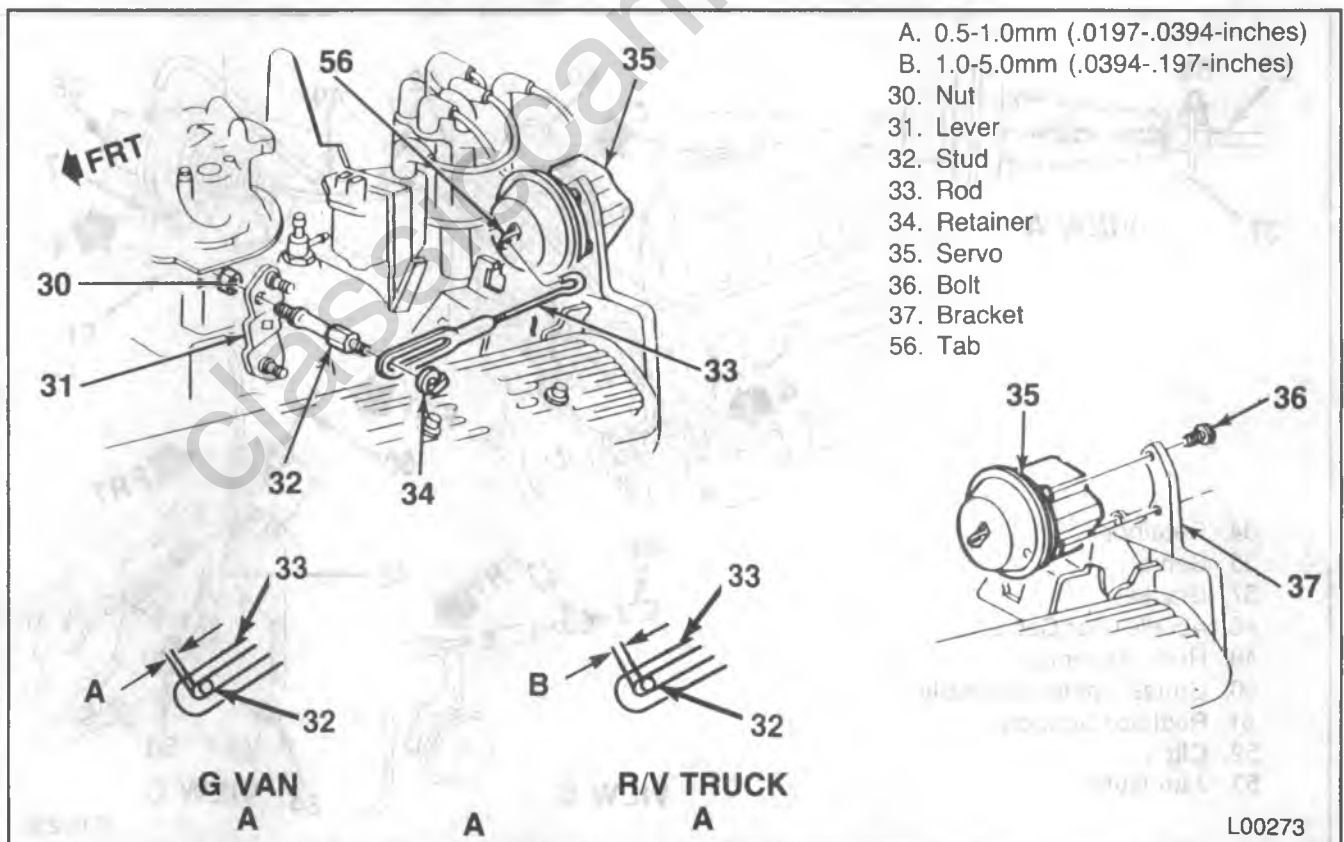

Figure 20 — Servo Mounting (Gas Engines)
→ Install or Connect (Figures 20 through 25)
- Rod (33) so that it assembles over stud (32) per adjustment A or B (figure 20).
↔ Remove or Disconnect (Figures 20 through 25)